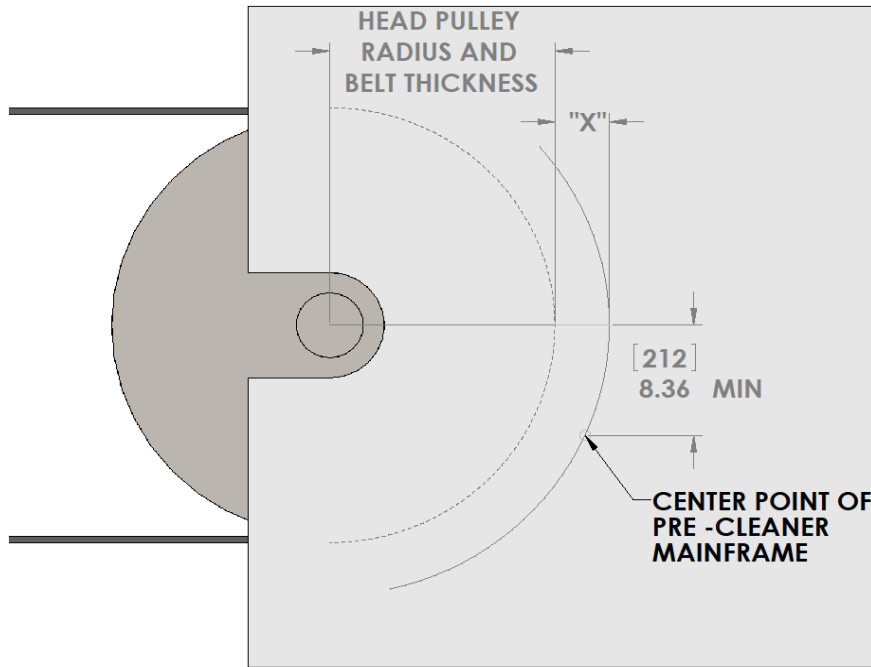

Figure 3
1. Finding Center Point of Mainframe (See Figure 3 and Table 1)